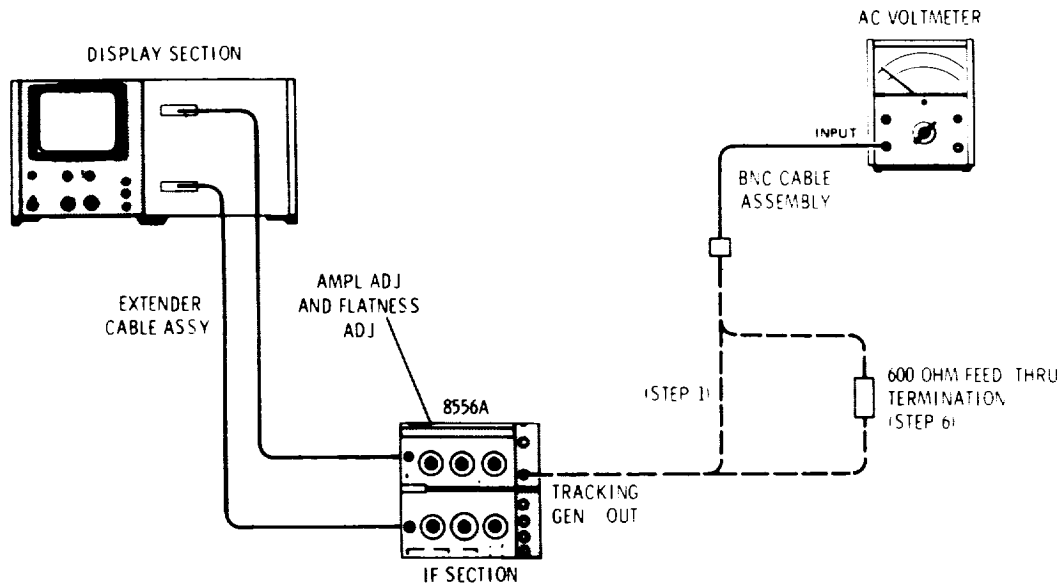

Figure 5-5. Tracking Generator Adjustment Test Setup
1. Connect equipment as shown in Figure 5-5, connecting AC Voltmeter directly to TRACKING GEN OUT with 24" BNC cable.